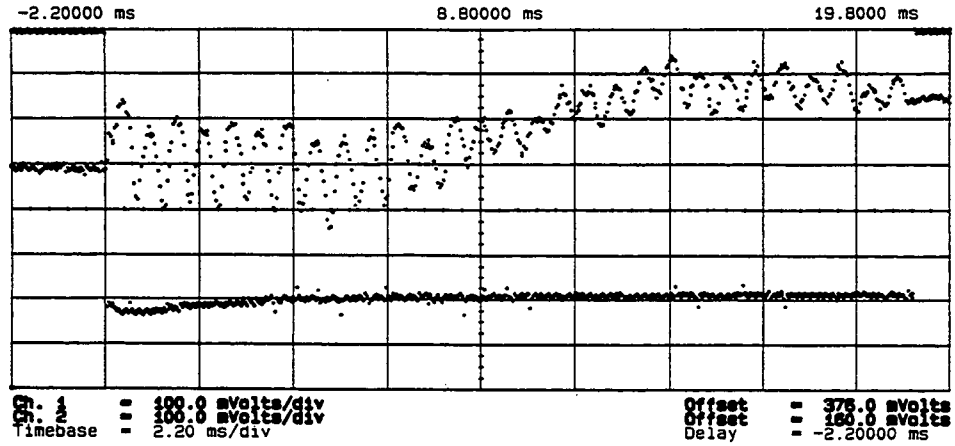
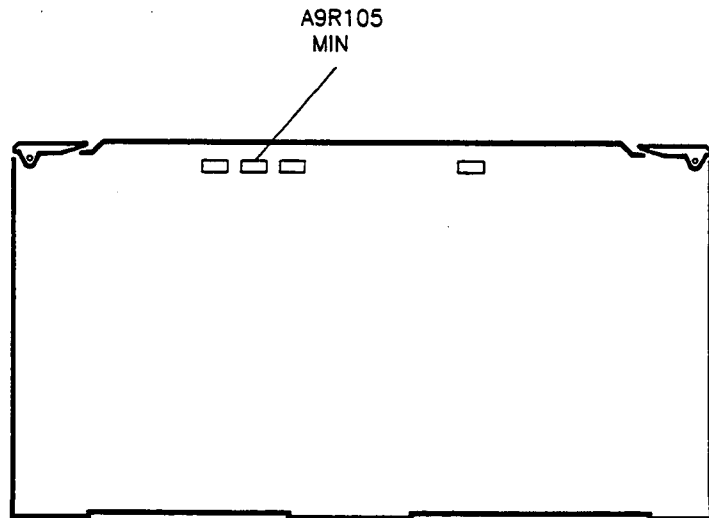

Figure 3-23. A9 Pulse Board MIN Adjustment
Figure 3-24. A9R105 Location
9. Alternate between registers 1 and 2 and adjust A9R105 (MIN) for the minimum overall voltage as shown in figure 3-23. See figure 3-24 for the location of A9R105.